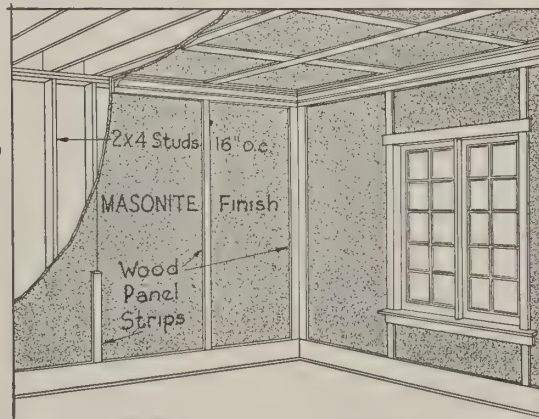

FIG. 6 SHOWING MASONITE USED AS AN INTERIOR TRIM
*Note:* See Figures 6 and 9, pages 10 and 11.